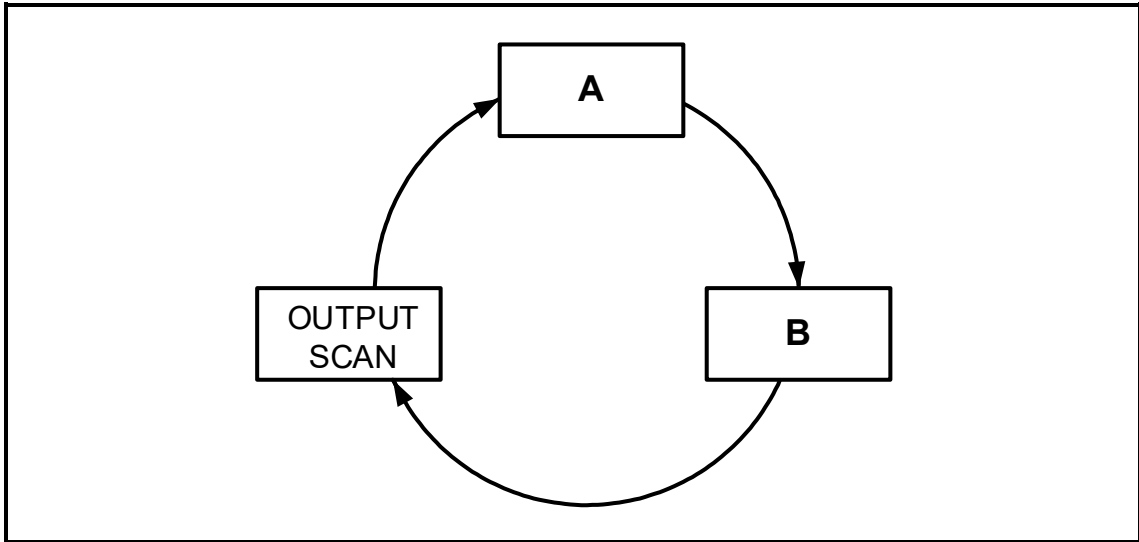

FIGURE 7.1: PLC SCAN CYCLE
7.1 Refer to FIGURE 7.1 below of the programmed scan cycle of a PLC and answer the questions that follow.